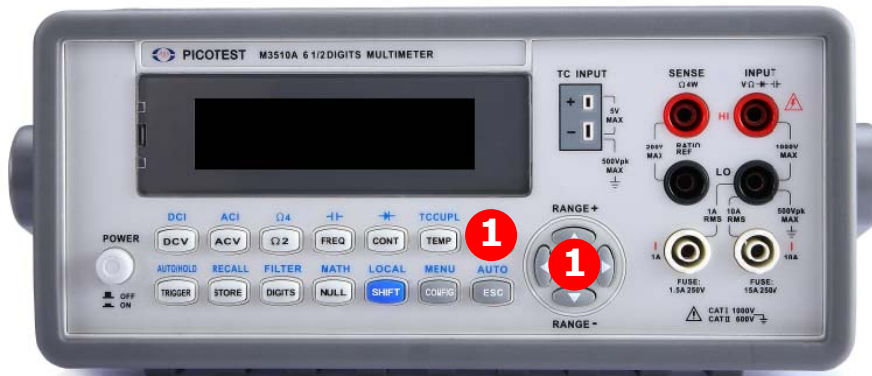

Figure 4-5
1. After enabling the filter (see above), use ◀ and ▶ buttons to locate “READINGS”. Press ENTER to select it. Use ◀ and ▶ to move through the digits and ▲ and ▼ buttons to increase or decrease the numbers to a desired value (from 2 to 100). Press ENTER to set the value. Press ENTER on “RUN” to start reading as shown in **Figure 4-5**.